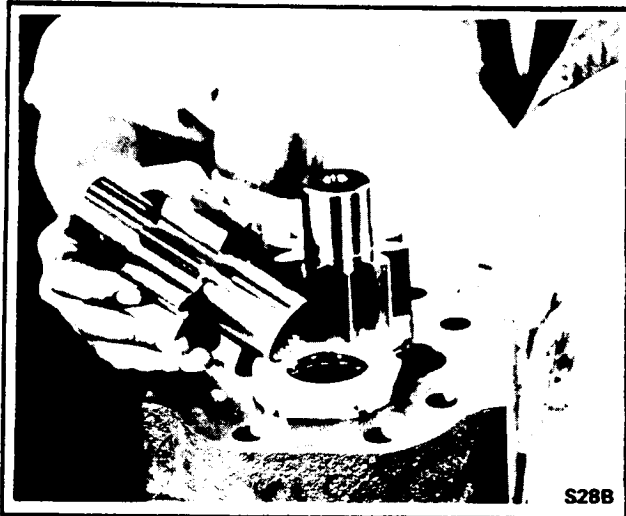

*Fig. 29—Trimming Pocket Seals*
10. Cut four pocket seals approximately  $1/4$ " long from the pocket seal strip. Insert one pocket seal into each of the slots in the thrust plate. Push each pocket seal all the way in so that they touch the roller bearings. Tap the thrust plate down firmly against the machined surface with a soft hammer. Use a sharp razor blade to trim exposed end of the pocket seal square and flush with the thrust plate. See Fig. 29.